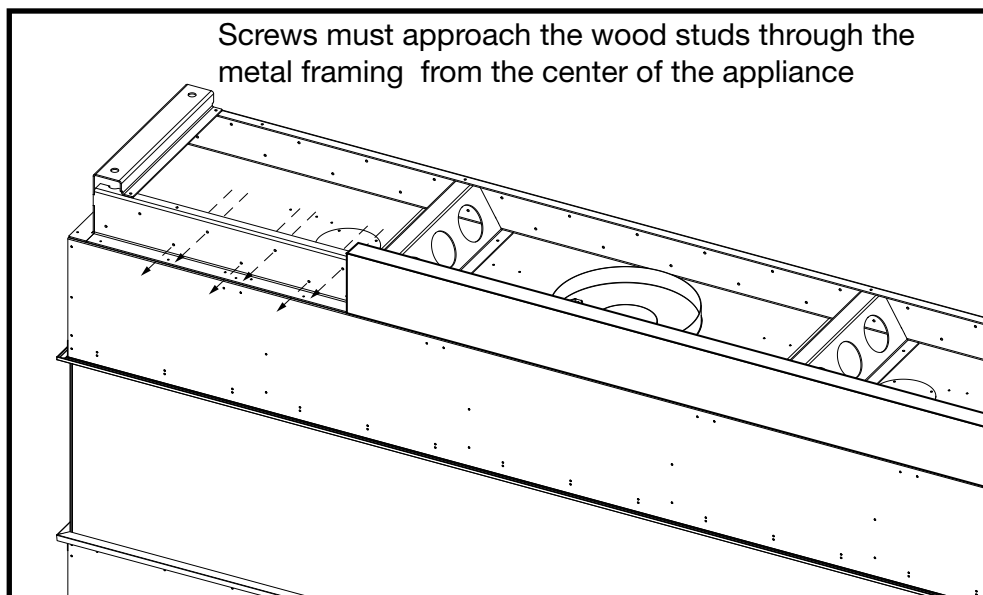

Figure 5: Stud securing points for bottom intake models.
2. Facing material can be secured directly to the front and sides of the unit except in the areas indicated in this example by Figure 5. Each model will have its own specific areas in which screws must not be driven into.